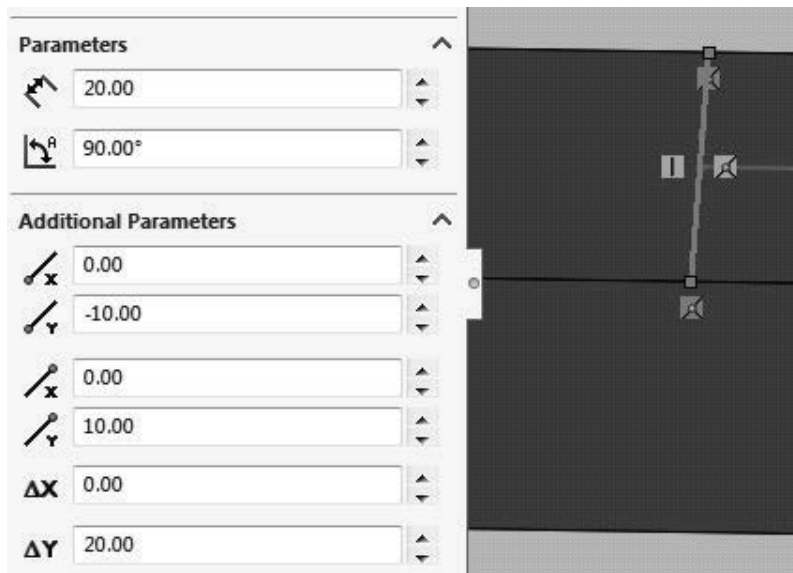

Figure 2.10 Drawing a line in the Z-direction
10. Next, we will create a split line. Repeat step 6 once again but this time select the **Top Plane** and draw a line in the Z-direction through the origin of the lower inner surface of the sketch. It will help to zoom in and rotate the view to complete this step. Set the **Parameters** and **Additional Parameters** to the values shown in figure 2.10 and close the dialog. Click on the **Rebuild** symbol.